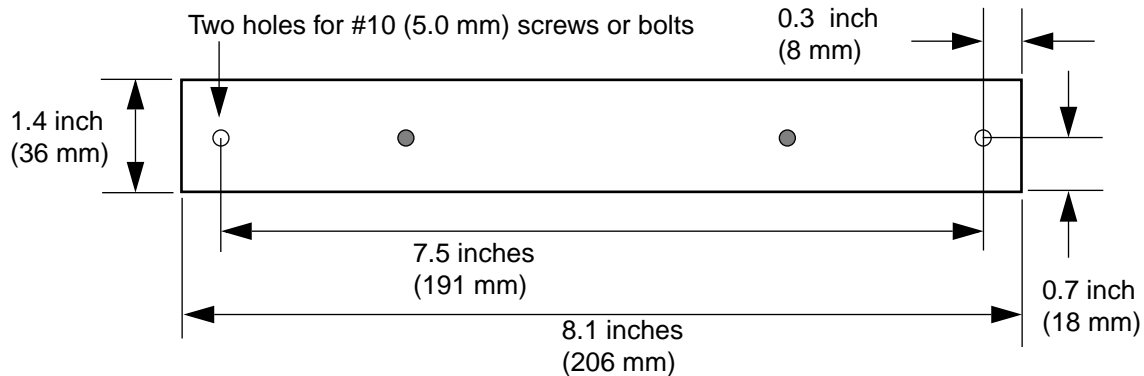

Figure 2.10 CLS200 Power Supply Mounting Bracket
2. Select a location with enough clearance to remove the power supply and bracket. (See Figure 2.10.)